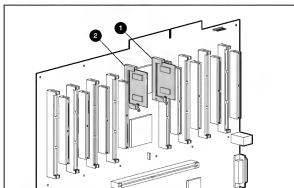

Figure 2-36: Cache Accelerators
Cache Accelerators are found where more than one processor bus is used. Figure 2-36 shows the location of Cache Accelerators ① and ②.